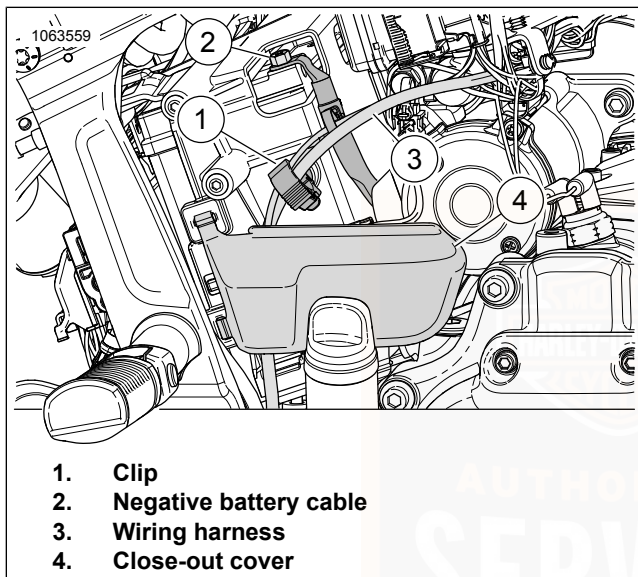
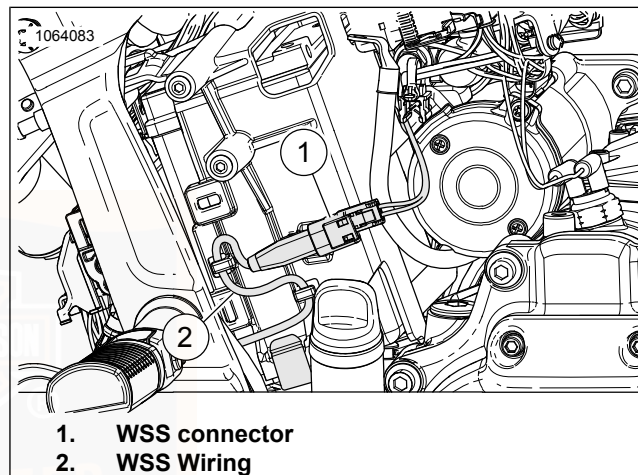
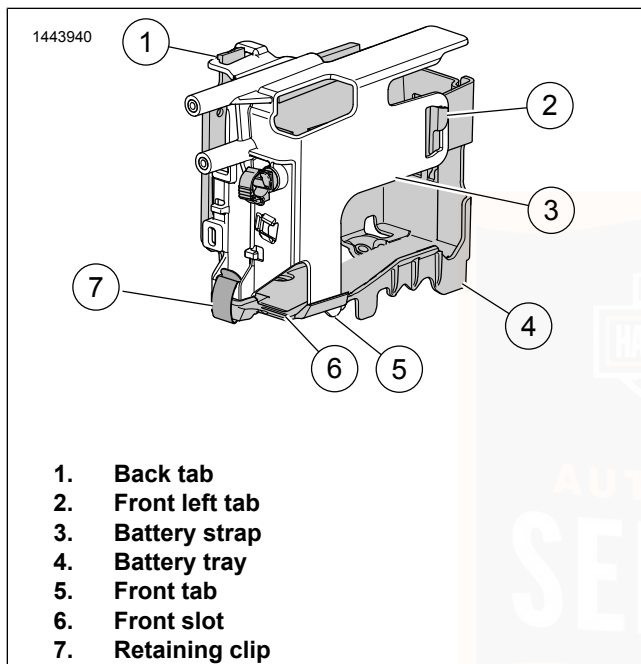

Figure 74. Negative Battery Cable and Close-Out Cover
Figure 75. WSS and Wiring
Figure 76. Battery Strap and Tray: (Removed for clarity)
3. See Figure 74. Disconnect negative battery cable (2).
4. Remove close-out cover (4)
5. Open clip (1) and position wiring harness (3) out of the way.
6. See Figure 75. Disconnect Wheel Speed Sensor (WSS) connector (1).
7. Remove WSS wiring (2) from routing tabs then remove wiring from battery strap.
8. See Figure 76. Remove battery strap.
- a. Unlock retaining clip (7).
- b. Disconnect back tab (1) from battery strap (3) to battery tray (4).
- c. Disconnect front left tab (2) from battery strap to battery tray.
1. See Figure 76. Install battery into battery tray (4).
4. Install battery strap (3).
- b. Connect front left tab (2) on battery strap to battery tray.
- c. Connect back tab (1) on battery strap to battery tray.
- d. Lock retaining clip (7).
5. See Figure 75. Install WSS wiring (2) to battery strap.
6. Connect WSS connector (1).
7. See Figure 74. Position wiring harnesses (3) and lock clip (1).
8. Connect negative battery cable (2) to negative battery terminal. Tighten. 72–96 **in-lbs** (8.1–10.8 N·m)
9. Install close-out cover (4).